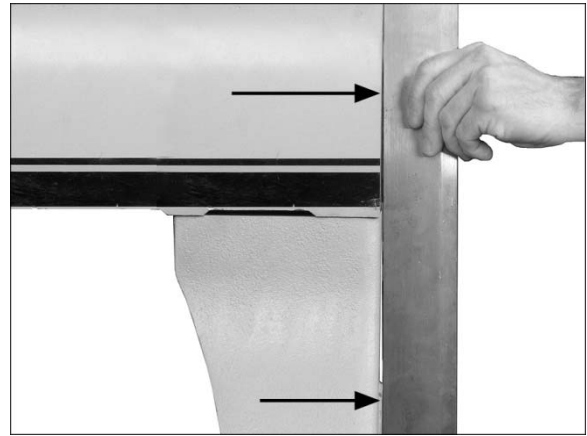

Figure 16
NOTE: If you will be installing the #6294900, 20" Bed Extension Kit (optional accessory), now is the optimal time to verify that right leg and bed end surfaces are flush. See Figure 16 and accompanying text for details.
2. Place a straight edge against bed and raised area of leg (Figure 16). These two areas should be flush. If they are not, support the lathe (with fork lift, hoist, etc. – USE CAUTION!) and loosen the screws holding leg to bed. Nudge leg as needed, then retighten screws firmly.